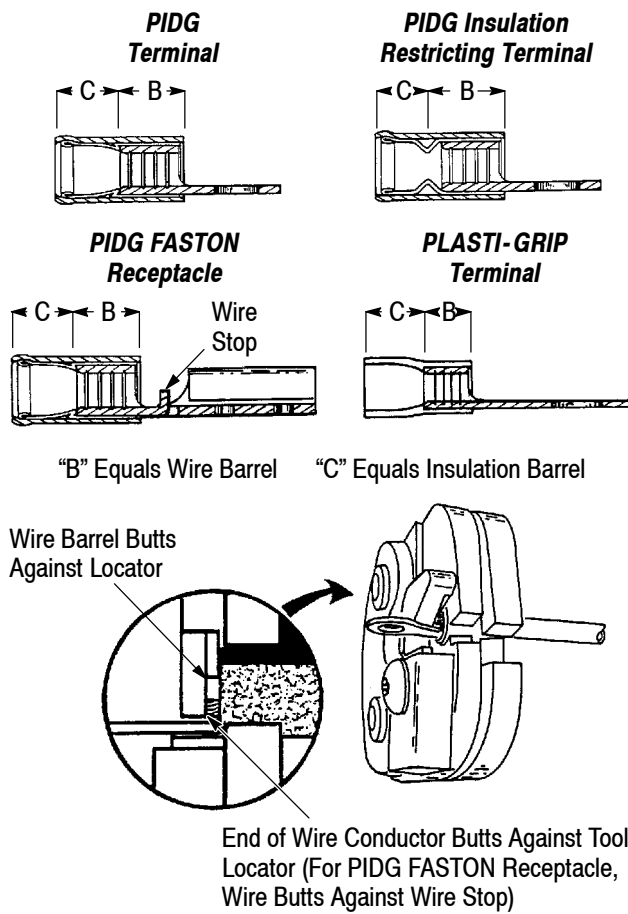
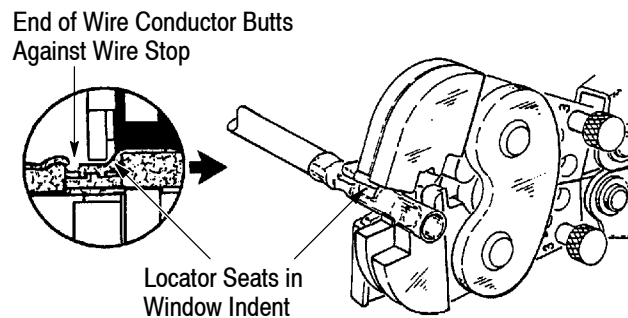

Figure 4
Figure 5
- Place the product in the jaws as shown in Figure 4 or Figure 5.
- Insert properly stripped wire(s) into the wire barrel as shown in Figure 4 or Figure 5.
- To crimp the other wire barrel of a splice, re-position the uncrimped wire barrel in the tool as shown in Figure 5, and repeat Steps 2 through 7.
2. Place a terminal or splice into the tool jaws as shown in Figure 4 or Figure 5.
5. Remove the crimped terminal or splice and check the insulation crimp by bending the wire back and forth once. The terminal or splice should retain its grip on the wire insulation. If the wire pulls out, set BOTH insulation crimp adjustment pins to the next higher position (2).